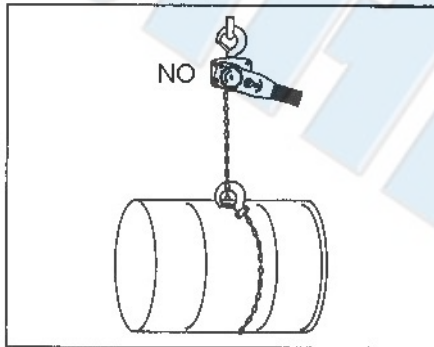

FIGURE 2
10. DO NOT wrap load chain around load, or use load chain as a sling (FIGURE 2).